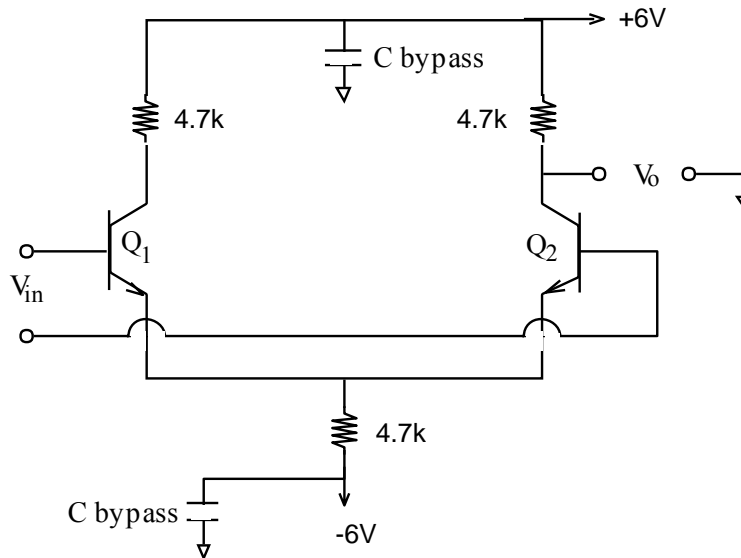

Figure 1
- Using transistors 1 and 2 in the array, construct the circuit in Figure 1. Be sure to connect pin 5 to -6 volts. It is also a good idea to bypass both your power supplies with  $100\mu\text{F}$  capacitors. This will help reduce any power supply noise.